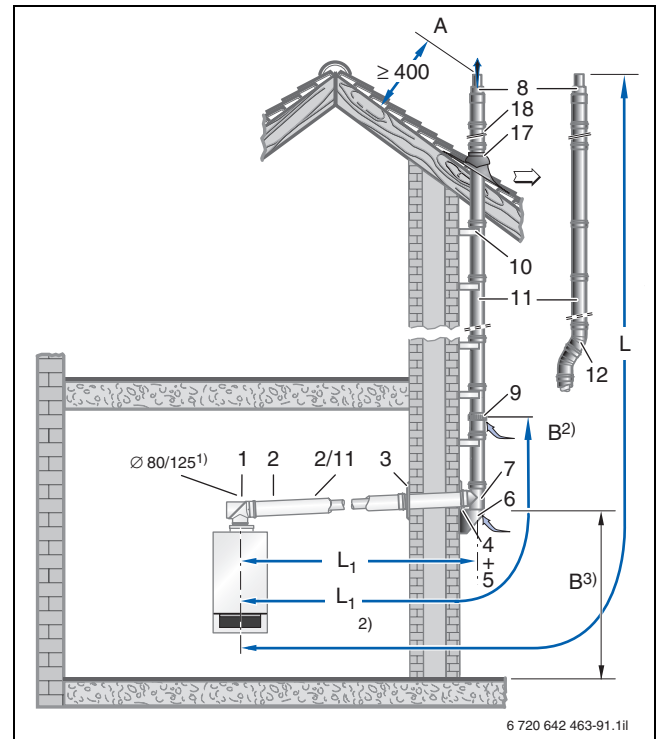
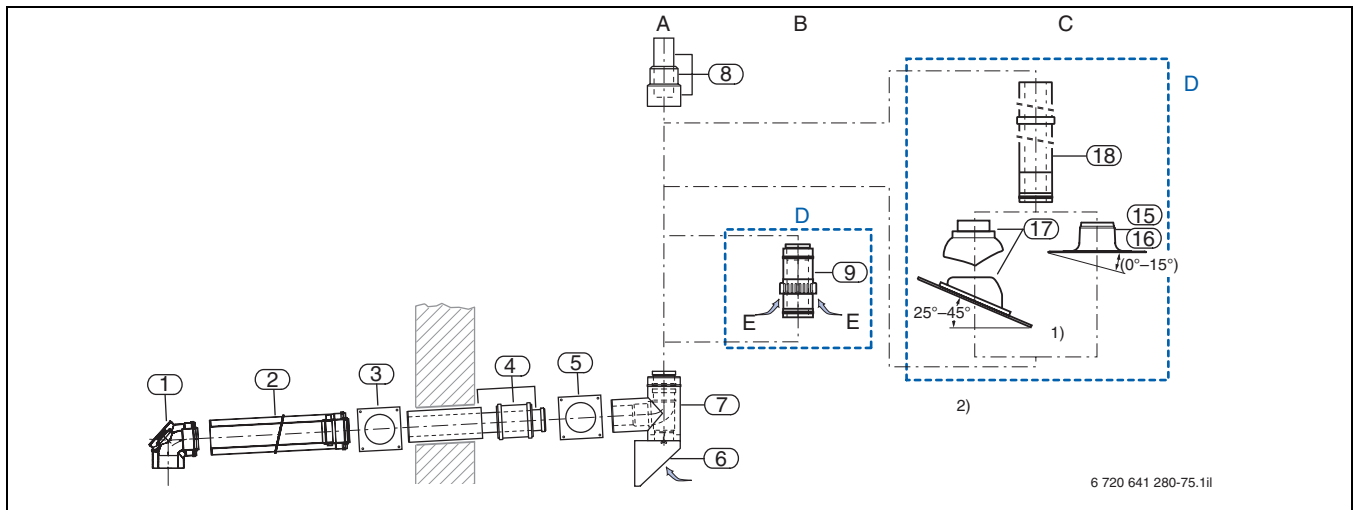

Fig. 135 Installation version with the GAF-K set (dim. in mm)
Fig. 136 Plastic components of the standard GAF-K set
Table 65 Maximum permissible total installed flue length (→ Fig. 135)
The ventilation air tee must be at least 30 cm above ground level to draw in the combustion air at the level of the wall outlet. Subject to the relevant geography, the height of snow deposits must also be taken into account. In any case, air must be drawn in at a level above the height of snow deposits that can be expected. Where this condition cannot be met, the combustion air can alternatively be drawn in via a concentric ventilation air connector that must be installed in the air/flue gas line on the wall (→ Fig. 136, alternative ventilation air).
The air/flue gas line on an external wall can be routed through the eaves (→ Fig. 135). This requires the concentric roof outlet and either an adhesive flat roof flange or a universal roof tile with cowl as additional equipment (→ Fig. 136, roof outlet).
- C** Roof outlet (→ Fig. 135)